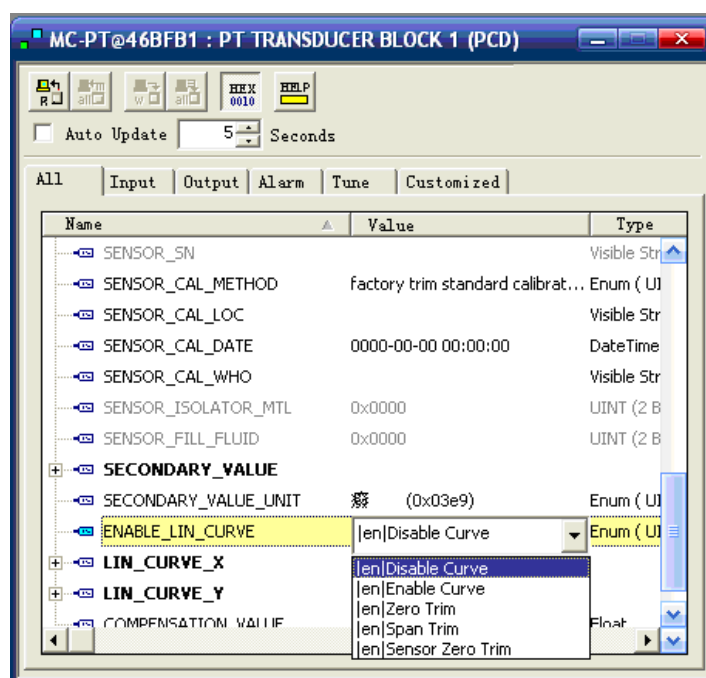

Figure 6-3 ENABLE\_LIN\_CURVE configuration
**Primary variable zero configuration** Add operationing pressure value at zero point to transmitter, set as "Sensor Zero Trim" (shown as Figure 6.3) via transducer block calibration parameter ENABLE\_LIN\_CURVE, to finish the sensor zero calibration. Read the PRIMARY\_VALUE of transducer block, it would be zero.